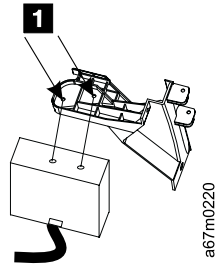

Figure 86. Attaching the Bar Code Scanner
3. Attach the bar code scanner to the bracket using the two screws that came with the bar code scanner. See Figure 86 on page 205.